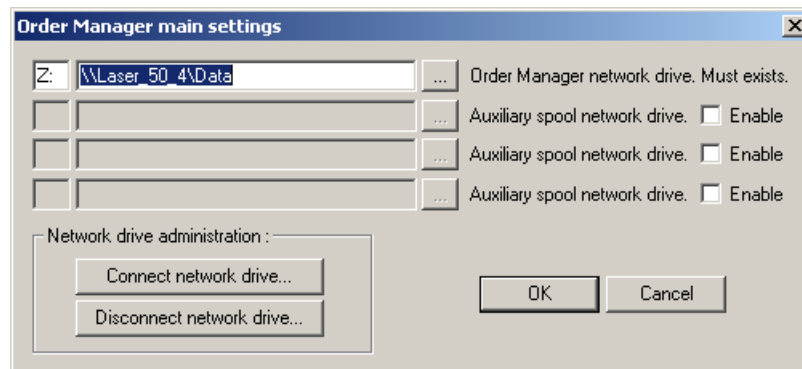

Fig.136 - Order Manager main settings window
- 5) The network drive must appear in the **Order Manager** main settings, as shown in fig. 136. to let this window appear, select: